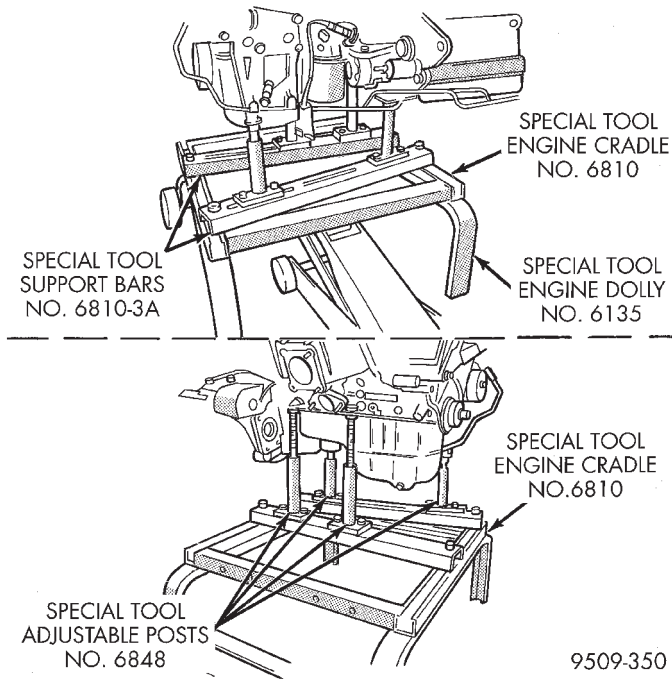

Fig. 31 Positioning Engine Cradle SupportPost Mounts
- (22) Raise vehicle enough to allow engine dolly and cradle Special Tools 6135 and 6710 to be installed under vehicle (Fig. 31).
- (23) Loosen cradle engine mounts to allow movement for positioning onto engine locating holes on the engine bedplate. Lower vehicle and position cradle mounts until the engine is resting on mounts. Tighten mounts to cradle frame. This will keep mounts from moving when removing or installing engine and transmission.
- (24) Lower vehicle so weight of the engine and transmission ONLY is on the cradle.
- (25) Remove engine and transmission mount bolts.
- (26) Raise vehicle slowly. It may be necessary to move the engine/transmission assembly on the cradle to allow for removal around body flanges.